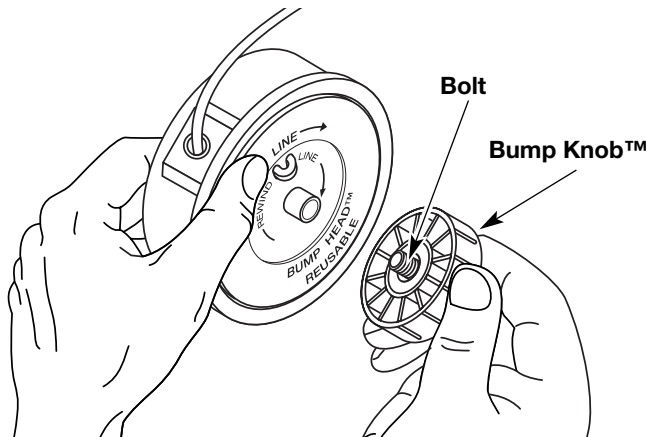

Fig. 11
1. Hold the outer spool with one hand and unscrew the Bump Knob™ counterclockwise (Fig. 11). Inspect the bolt inside the Bump Knob to make sure it moves freely. Replace the Bump Knob if damaged.
1. Hold the outer spool with one hand and unscrew the bump knob counterclockwise (Fig. 11). Inspect the bolt inside the bump knob to make sure it moves freely. Replace the bump knob if damaged.